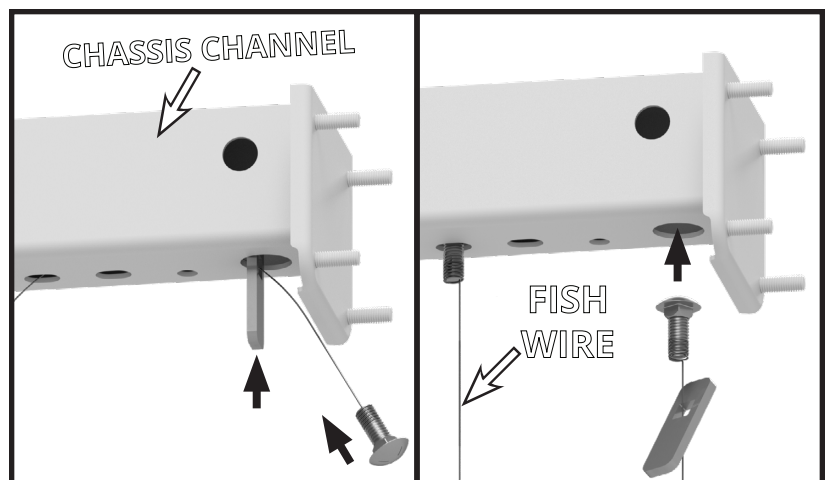

FIGURE A3: VIEW OF PASSENGER SIDE CHASSIS CHANNEL
3. Thread a carriage bolt and locking strap onto a fish wire. Pass the non-coiled end of the fish wire into the large hole at the end of the chassis channel through the channel and into the smaller forward hole, as shown in Figure A3. Insert the locking strap and carriage bolt into the channel through the large hole. Pull on the fish wire to bring the carriage bolt through the smaller hole.
4. Thread another carriage bolt and locking strap onto a fish wire. In the larger hole, pass the carriage bolt and locking strap with fish wire into the channel, as shown in Figure A3. Pull the carriage bolt back down through the hole, leaving the locking strap inside the larger hole.